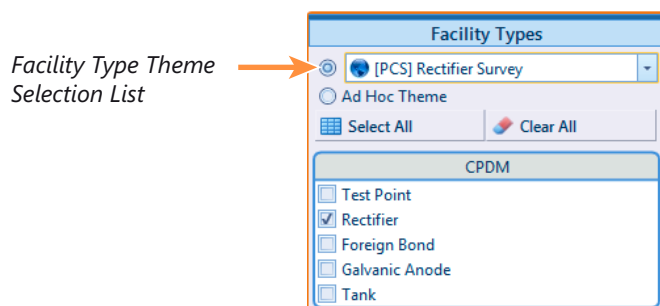
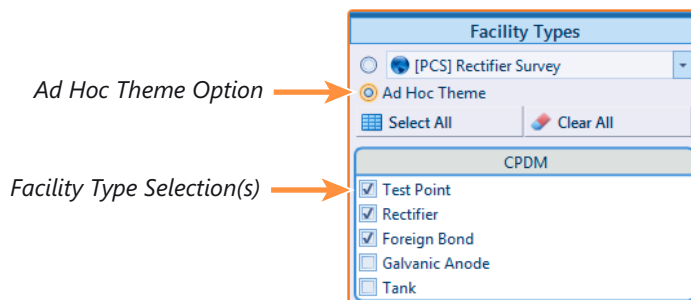

Figure 9-5. Facility Type Theme Option
Figure 9-6. Ad Hoc Theme Option
- a To select a facility type theme, click the themes option button and then click the down arrow and select a theme in list, such as *[PCS] Rectifier Survey* (Figure 9-5).
- b To select multiple facility types, click the **Ad Hoc Theme** option and then click the check box for one or more facility types, such as *Test Point*, *Rectifier*, and *Foreign Bond* (Figure 9-6).
- 3 Choose the facility type(s) you want to work with by selecting a *facility type theme* or setting up an *Ad Hoc Theme* in *Facility Types*. See Figure 9-5 or Figure 9-6 on page 396.